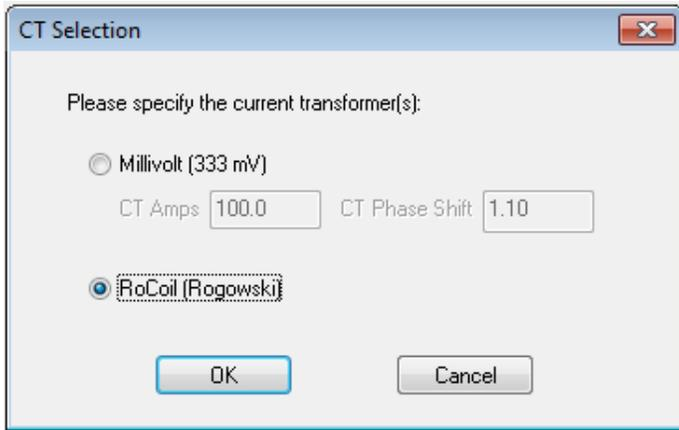

Figure 4. Set up of the blue RoCoil CT using the CT Selection dialog box
1.	From the logger setup table ( File &gt; New &gt; Setup Table File &gt; ElitePro SP ), open the CT Selection dialog box by clicking one of the four Quick Setups buttons in the top right of the dialog box (see Figure 4).